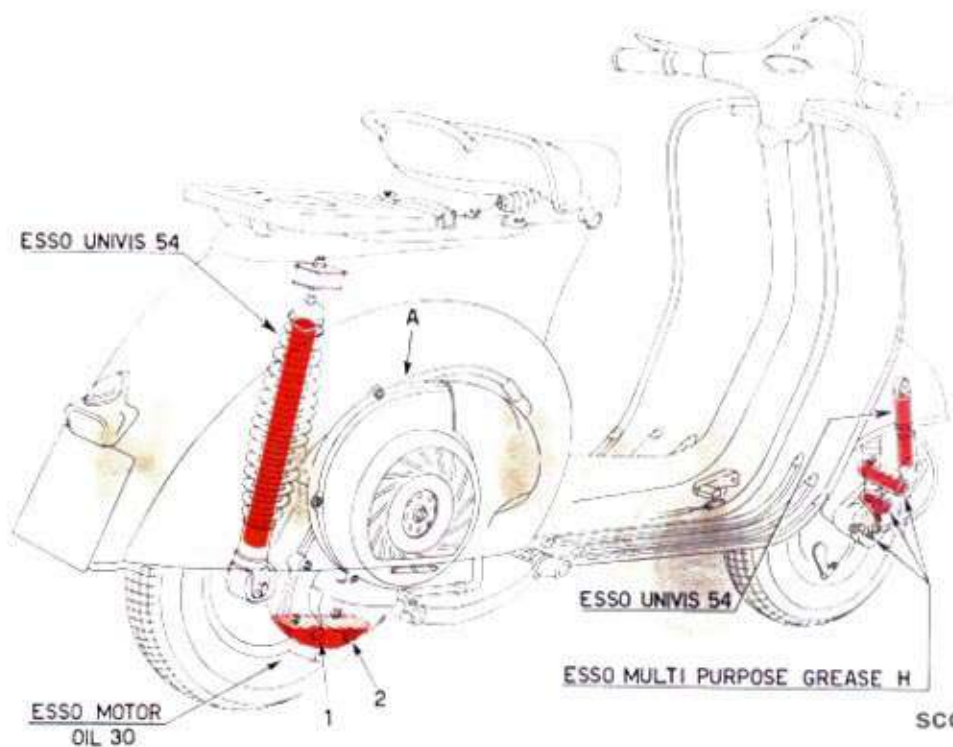

Fig. 20 - Lubrication scheme
1) - Check oil level in gear box by unscrewing on the crankcase, the level screw marked « OLIO » (see Fig. 20, No. 1). With the scooter standing upright, oil should just be about to flow out.